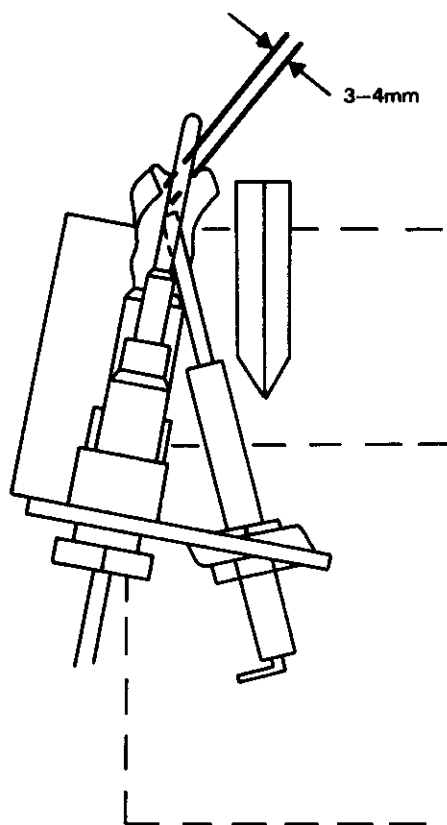

Fig. 13
- (e) The spark gap is correct — Refer Fig. 13.
- (g) The position of the thermocouple relative to the pilot burner and main burner is correct — Refer Fig. 13.
7. Transfer the electrode and shield to the new pilot burner ensuring that the spark gap is correct. Refer Fig. 13.